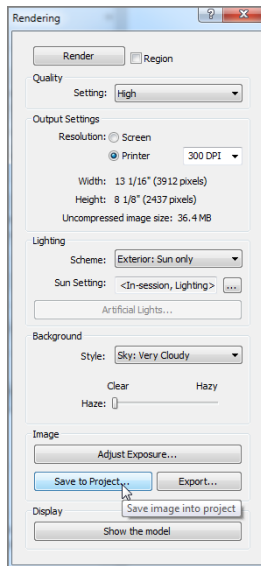

FIGURE 19.7: Saving the rendering to the project
1. In the Rendering dialog, click the Save To Project button, as shown in Figure 19.7.